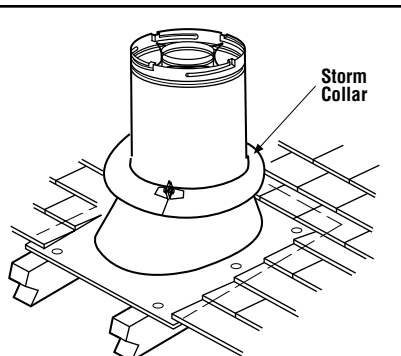

Figure 20
J. Install the storm collar - Install the storm collar, supplied with the flashing, over the vent/flashing joint. See **Figure 20**. Loosen the storm collar screw. Slide collar down until it meets the top of the flashing. Tighten the adjusting screw. Apply non-combustible caulking or mastic around the circumference of the joint to provide a water tight seal.